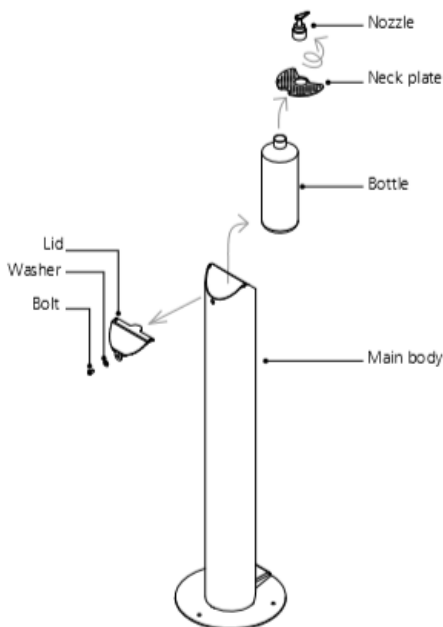

Fig. 2: Height adjustment
- Remove lid and bottle as above and extract the bottle plinth as shown in fig 2.